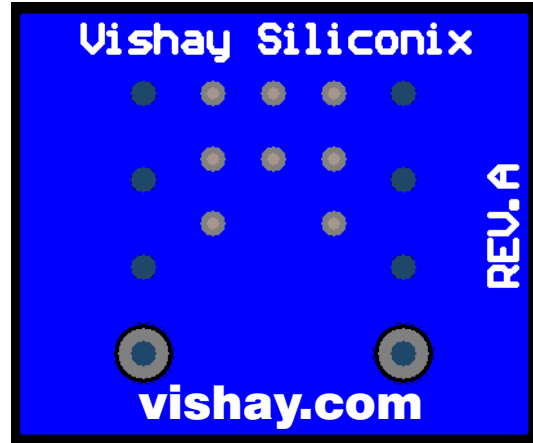

FIGURE 3.
The pad pattern with copper spreading shown in Figure 2 improves the thermal area of the drain connections (pins 1,2,3,6,7,8) while remaining within the confines of the basic footprint. The drain copper area is 0.0054 sq. in. or 3.51 sq. mm). This will assist the power dissipation path away from the device (through the copper leadframe) and into the board and exterior chassis (if applicable) for the single device. The addition of a further copper area and/or the addition of vias to other board layers will enhance the performance still further. An example of this method is implemented on the Vishay Siliconix Evaluation Board described in the next section (Figure 3).
2) The evaluation board with the pad pattern described on Figure 3.	111°C/W